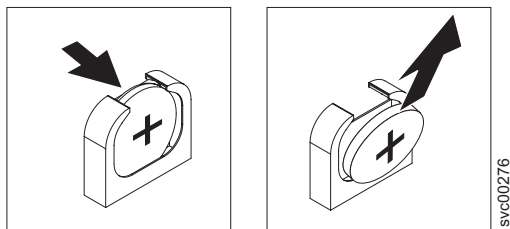

Figure 172. SAN Volume Controller 2145-8G4 CMOS battery holder
4. Remove the CMOS battery, as shown in Figure 172: